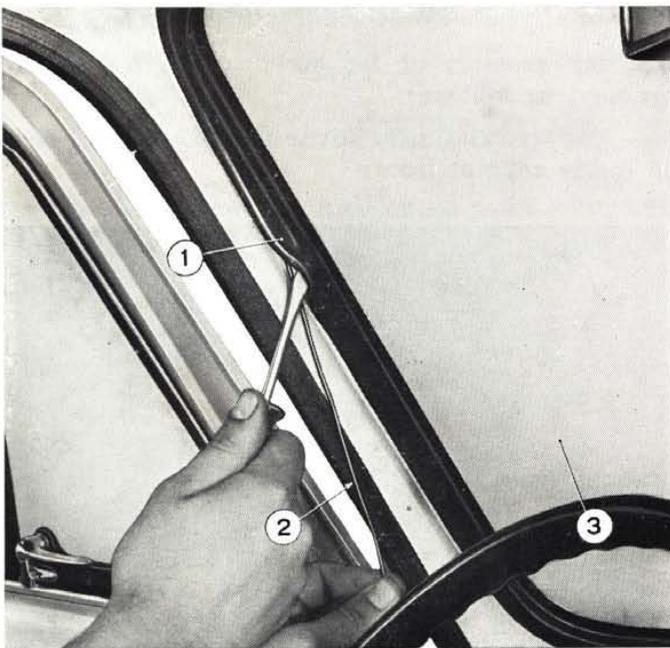

Fig. 404 - Installing windshield glass.
- To facilitate this step, use a screwdriver (see fig. 404).